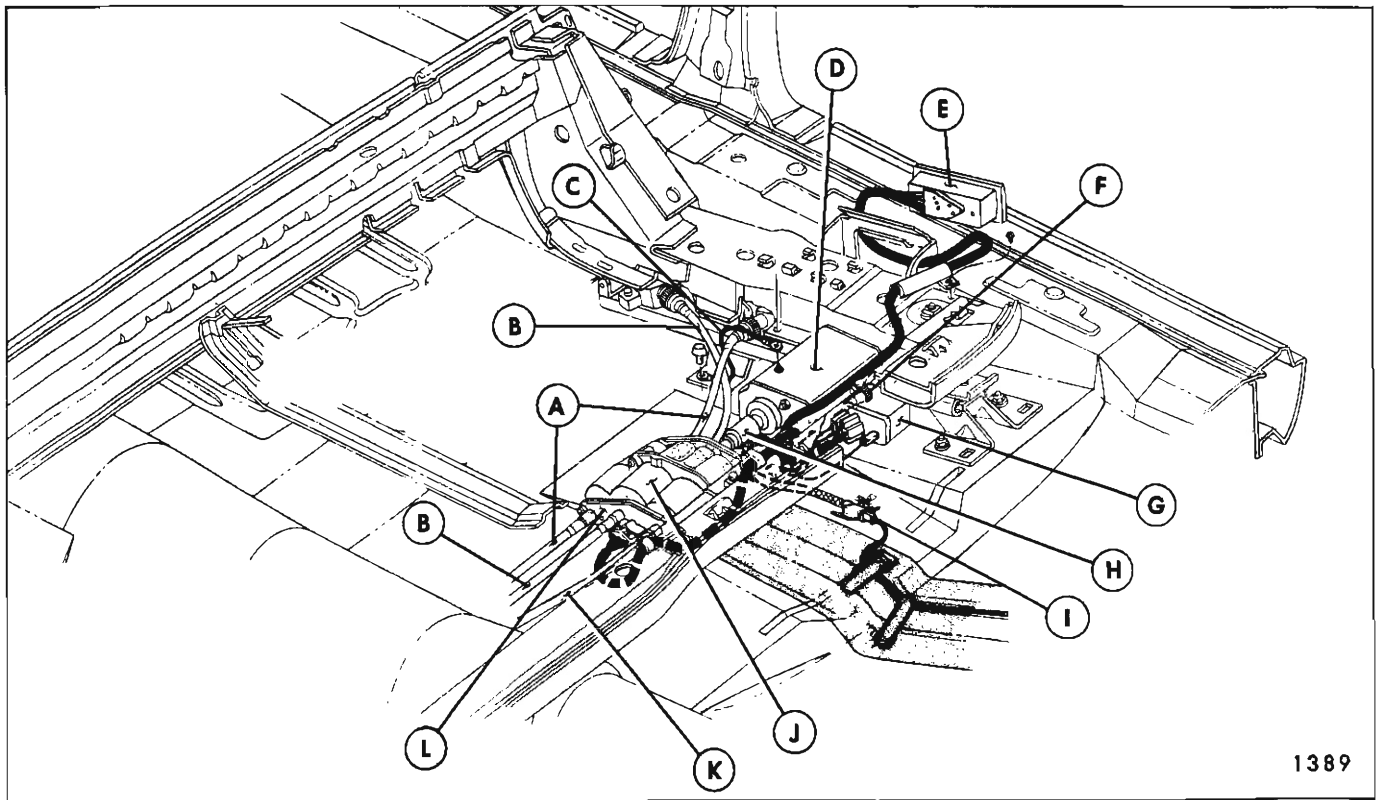

Fig. 1L43—Six Way Seat
The seat adjusters are actuated by a 12-volt motor installed at the left side of the seat assembly (See Fig. 1L43). The motor is energized by a (3) button-type control switch located in the left seat side panel on all styles except 68000 Series which incorporates a rotary type switch in the seat side panel.